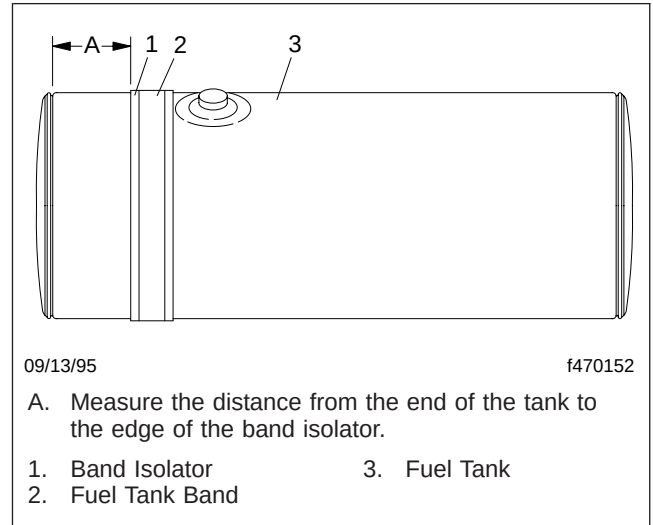

Fig. 1, Measuring the Band Installation Distance
5. Before removing the fuel tank bands, measure and record the distance from the forward edge of the fuel tank to the edge of the fuel tank band. See Fig. 1.